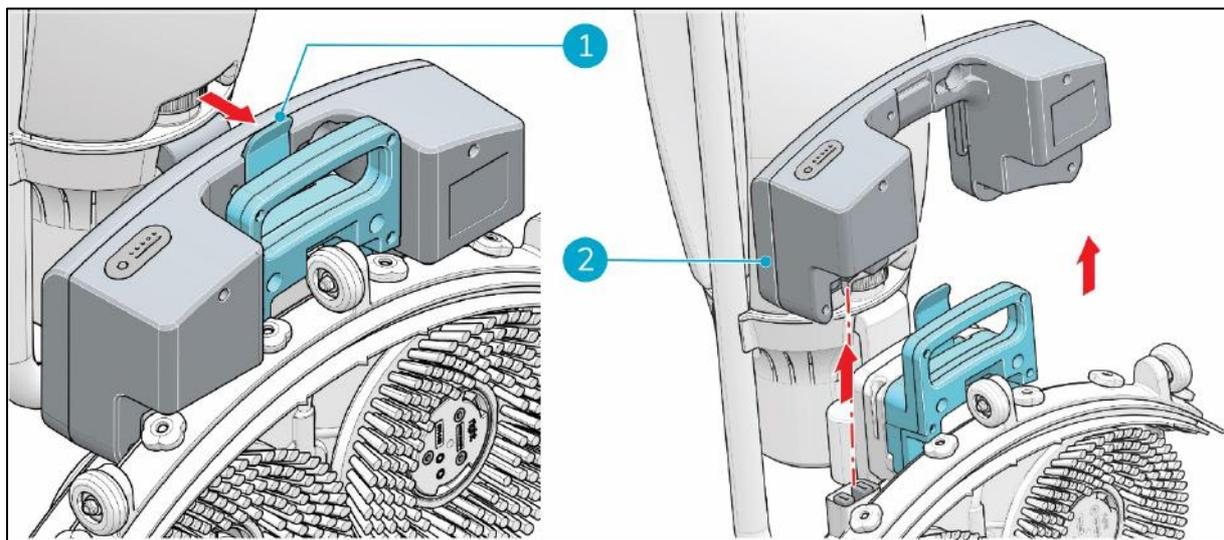

Figure 23
3. While pressing the retaining clip inwards (Figure 23, pos 1), pull the battery away (Figure 23, pos 2).